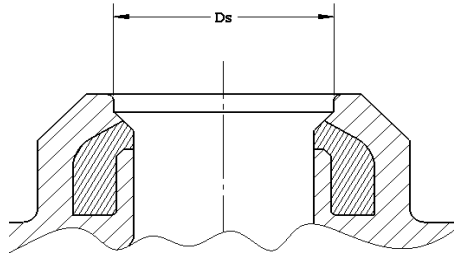

Figure 29: Critical Seat Dimension
2. Referring to Figure 29, measure the diameter  $D_s$  of the nozzle. This diameter must be in the range of values listed in Table 3.